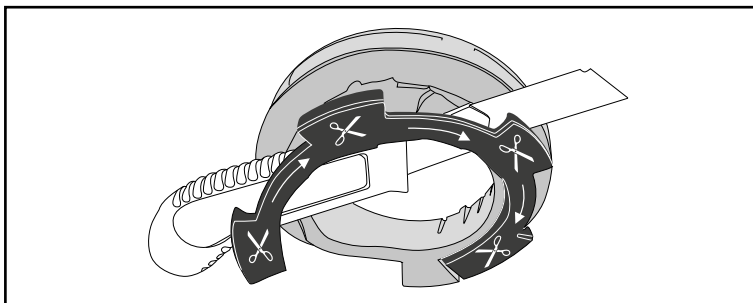

Figure 2, cut off rubber at top of strut bearing if necessary
The rubber of the strut mount is equipped with a mounting aid on the rear axle of some vehicles. This serves to prevent the rubber of the strut mount from slipping off the spring during production. When the vehicle is in operation, this is without function and can therefore be removed. If your vehicle has such a rubber bead as a mounting aid, you must remove it before installing the SPAC CER® (see Figure 2).
4. Now the vehicle's suspension is fully extended and the wheels don't contact the ground (Figure 2). Measure again the distance between the centers of hub and wing/fender.
Distance sprung (Fig. 2)	49,0 cm